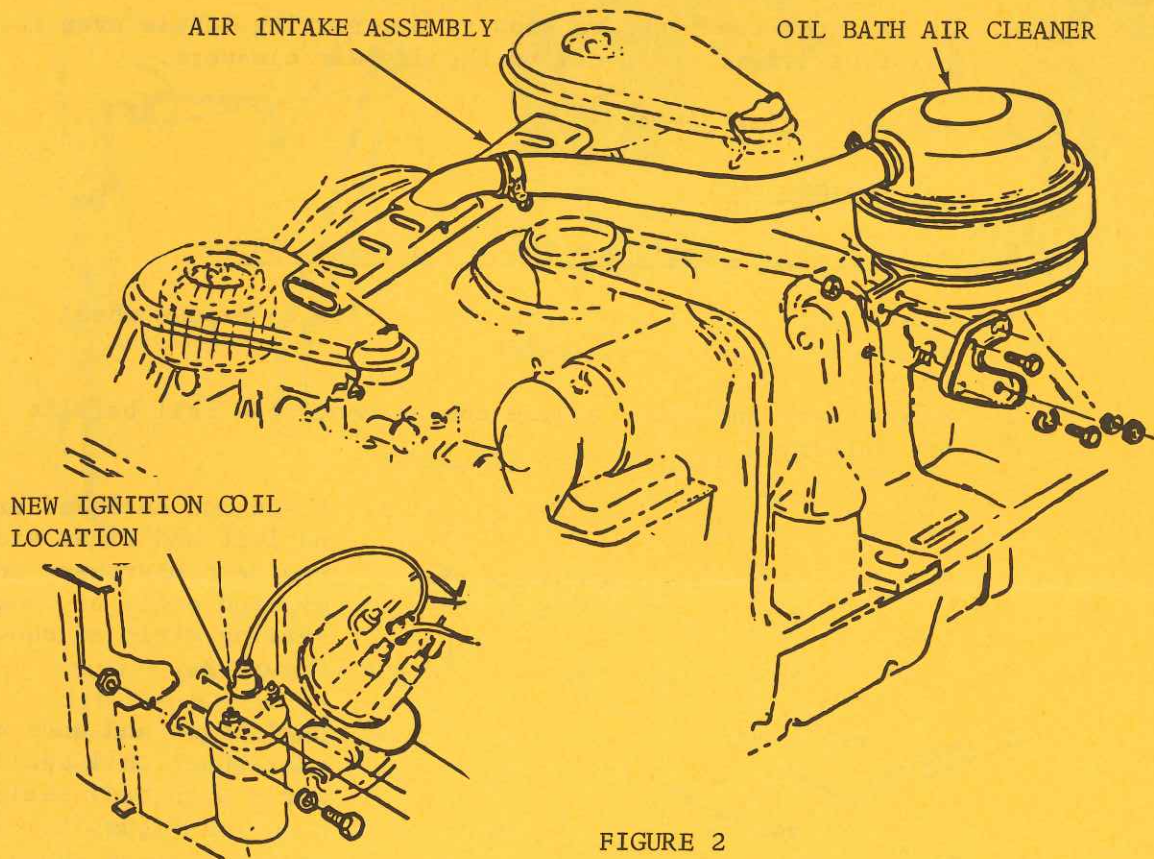

FIGURE 2
Oil Bath Pre-cleaner Unit 3846972 - 1961-63 Corvair "95" Figure 2
2. Remove and relocate ignition coil to the engine rear mounting crossmember brace assembly with attaching parts as shown in Figure 2.
4. Install air cleaner support bracket with attaching parts in location formerly occupied by ignition coil as shown in Figure 2.
5. Install air cleaner support around the bottom portion of oil bath air cleaner and assembly to air cleaner support bracket with attaching parts as shown in Fig. 2.
6. Remove oil bath air cleaner wing nut, remove cover and add one (1) quart of engine oil (S.A.E. 50 for above freezing weather or S.A.E. 20 for below freezing weather). Replace cover and wing nut.